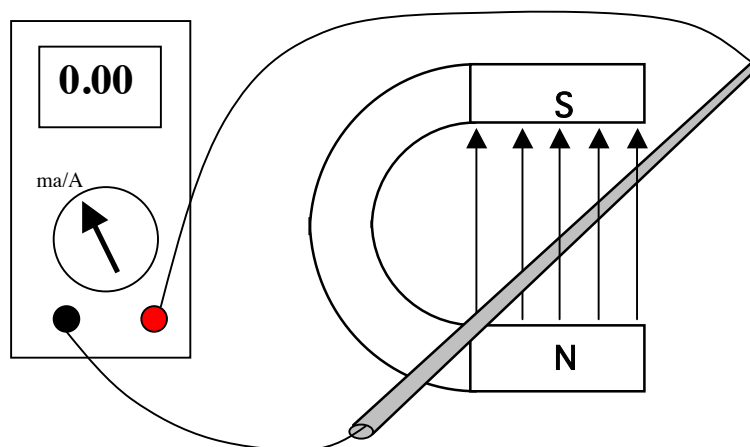
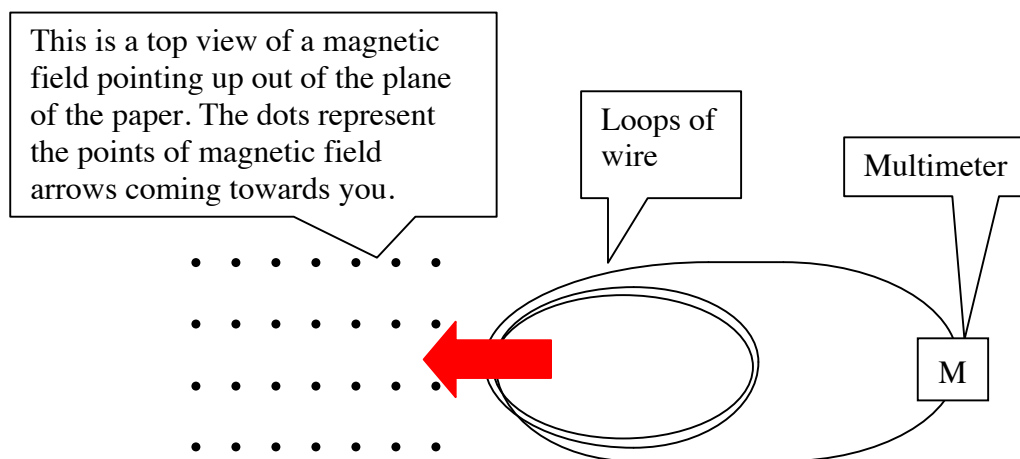

Figure 11.11a
Figure 11.11b
Turning the Genecon crank makes coils of wire rotate between two magnets inside the motor. This makes the charge contained in the coil wire move in a magnetic field -- in a direction sideways to the wires. How does this make charge move through a bulb connected to the motor? We will investigate the simpler situation in Figure 11.11a, with your hands making a straight wire move in a stronger magnetic field with a nearly uniform pattern like that of the field in the Genecon motor.
Figure 11.11a shows a digital multimeter with its selector set to read current, making it an ammeter. To determine which direction of charge flow the meter readout indicates, connect a D-cell and two long bulbs in series with the meter. The D-cell's orientation in the circuit tells you which direction conventional charge moves -- and the meter reading will display either a negative sign or no sign corresponding to that direction of charge flow.
After you connect the circuit in Figure 11.11a, use your hands to make the wire move. Watch the galvanometer needle, which will respond to charge movement along the wire.
1. To simulate what happens in a generator, you will make the straight wire in Figure 11.11a move to the left in the magnetic field. This movement will be sideways to the wire and sideways to the direction of the magnetic field arrows. Draw a red arrow on Figure 11.11a to indicate the direction the charge in the wire moves during this sideways wire movement.
2. The Genecon motor has many turns of wire, so you should explore using coils with many turns of wire to see if that causes a greater effect. The teacher will provide various coils with different numbers of turns. Figure 11.11b shows a top view of Figure 11.11a with a coil replacing a straight wire. This has been done to make the physical situation easier to visualize and analyze.
- Position each coil as in Figure 11.11b and hold the plane of a coil horizontal.
8. Draw a simple colored diagram for Figure 11.11b that includes and relates
Let's apply the Right Hand Rule to the apparatus in Figure 11.11a, diagramed below with arrows. Refer to the diagram of the Right Hand Rule in Figure 11.8 while doing each of the following:
(Figure 11.11a WITH DIRECTIONAL ARROWS AND EXPLANATION)
Imagine that the multimeter in Figure 11.11a is replaced by a light bulb. The wire moving in a magnetic field will cause charge flow through the bulb -- exactly like it caused flow through the multimeter. This is the generator effect. Is there an electric pressure difference in the generator terminals driving charge flow through the bulb -- just like in battery terminals? Why or why not?